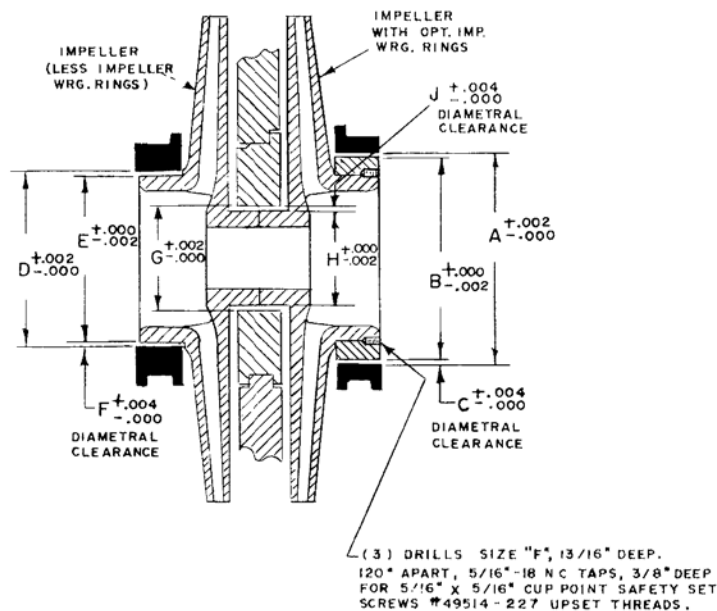

Figure 29:
The original diametral clearance between the impellers and case wearing rings for different materials is shown on Figure 29: on page 49. Clearance between casing wearing rings and optional impeller wearing rings is also shown. When hydraulic performance is reduced substantially, the casing
- c) Drill and tap three holes 120° apart in each ring. Use "F" drill 13/16" deep with 5/16" - 18 NC taps 3/8" deep. Use 5/16" x 5/16" cup point safety set screws. Tighten screws and lightly "up-set" threads. See Figure 29: on page 49.
- d) Replacement impeller rings are supplied .021" to .039" oversize and must be turned to size after mounting on impeller. See Figure 29: on page 49 for dimensions.
The impellers should tap easily on the shaft. If the impellers do not tap on readily, the bore and shaft should be inspected to see that they are free from foreign matter or burrs. The fit of the key in the keyways should also be checked to see that it is not causing binding. See Figure 29: on page 49.
The original diametric clearance between the impeller and diaphragm is shown in Figure 29: on page 49. When performance is substantially reduced, or when the diametrical clearance exceeds 0.035", the diaphragm and, at times, the impeller should be replaced.